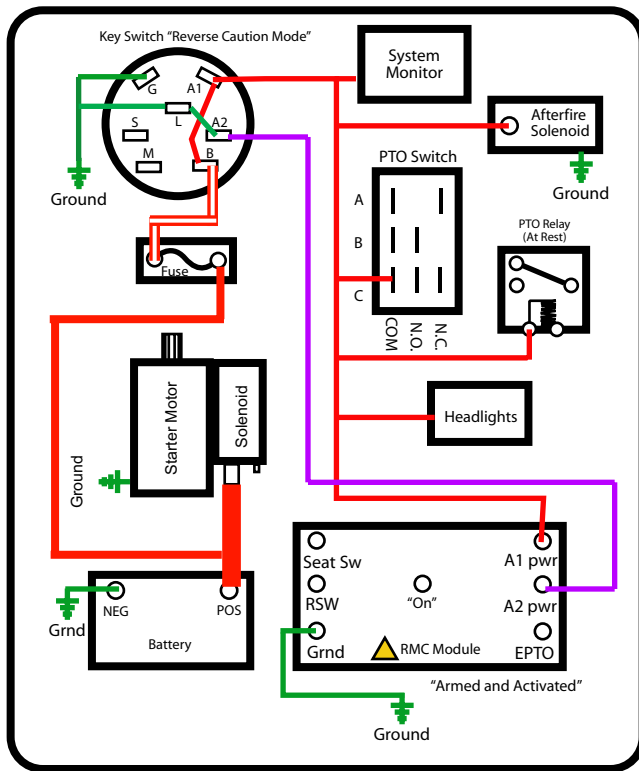

Figure 7.21
3. The RMC module arms when it gets a ground signal from A2 through the "A2 pwr" terminal on the RMC module. See Figure 7.21.